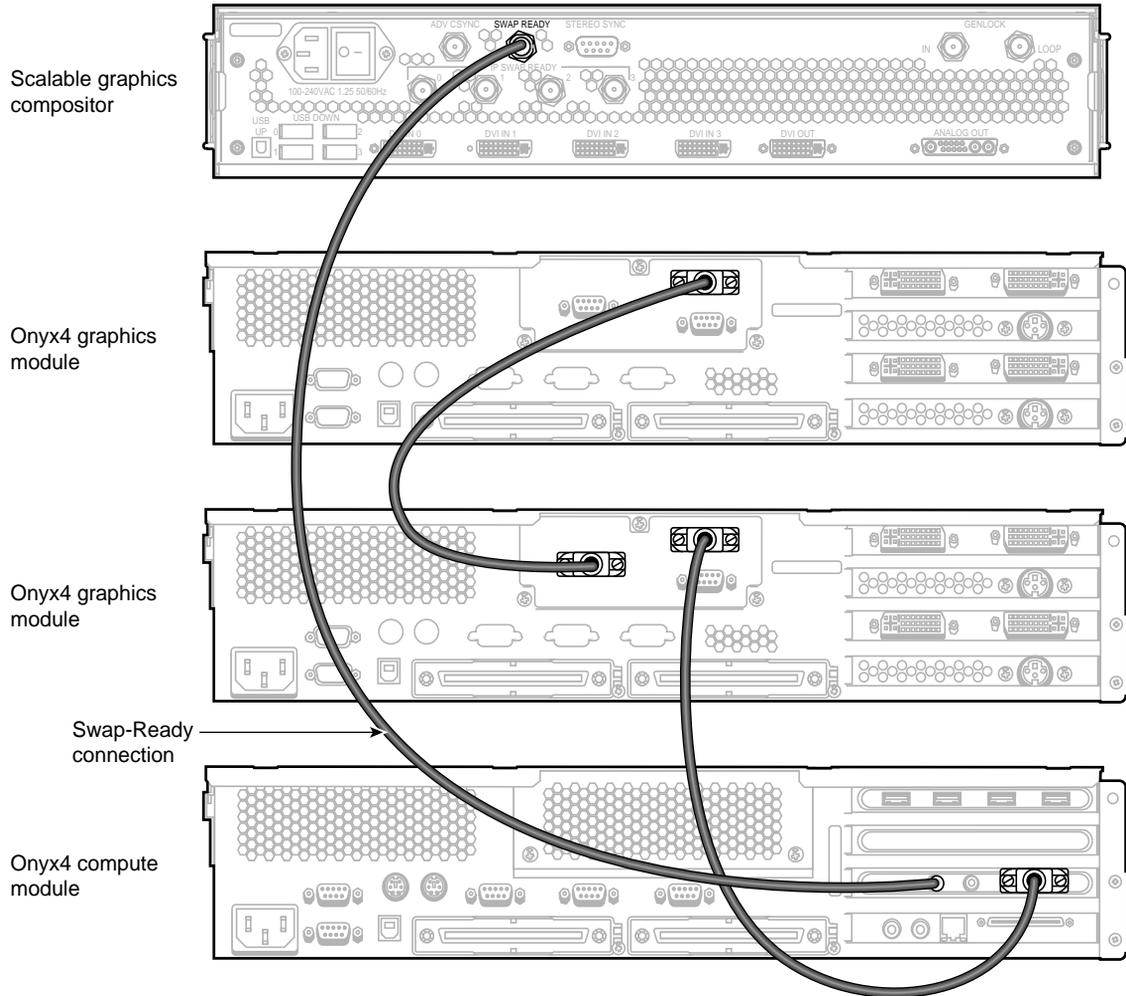

Figure 2-6 Onyx4 Image-Sync and Swap-Ready Connection Example
5. Connect the 75-ohm BNC cable to the swap-ready connector on the compute module PCI card (leftmost connector), then connect the cable to the **Swap Ready** connector on the compositor as shown in Figure 2-6.